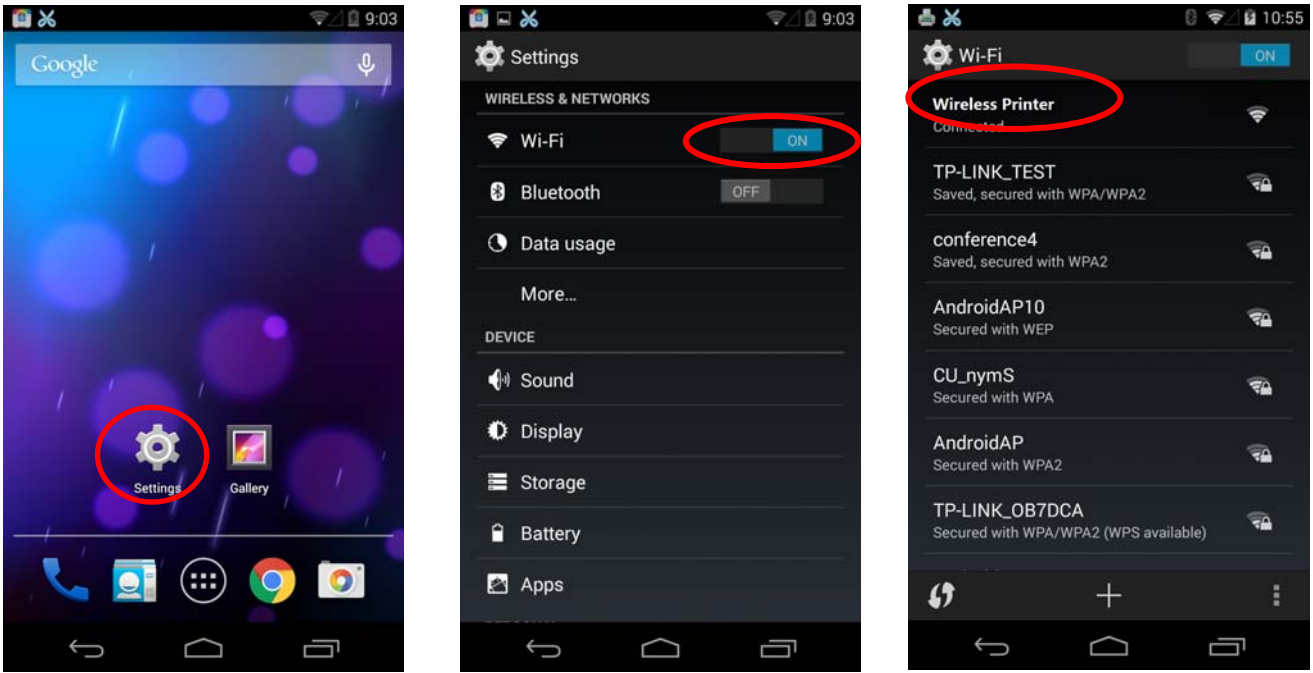

Figure 2
2. Click “Settings” and the interface pops up. Select the “WLAN” function to “ON”, then click the printer Wi-Fi searched by the mobile phone to connect. The printer Wi-Fi default name is composed of “the printer model+6 numbers and letters” (as shown in Figure 2).